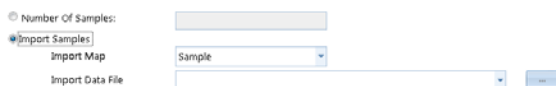

Figure 11 Import Samples options in the User Login (Page 1 of 3)
- f (Optional) Import samples from a file as an alternate to entering a value for the number of samples as shown in **Figure 11**, if sample import is configured for your user group: